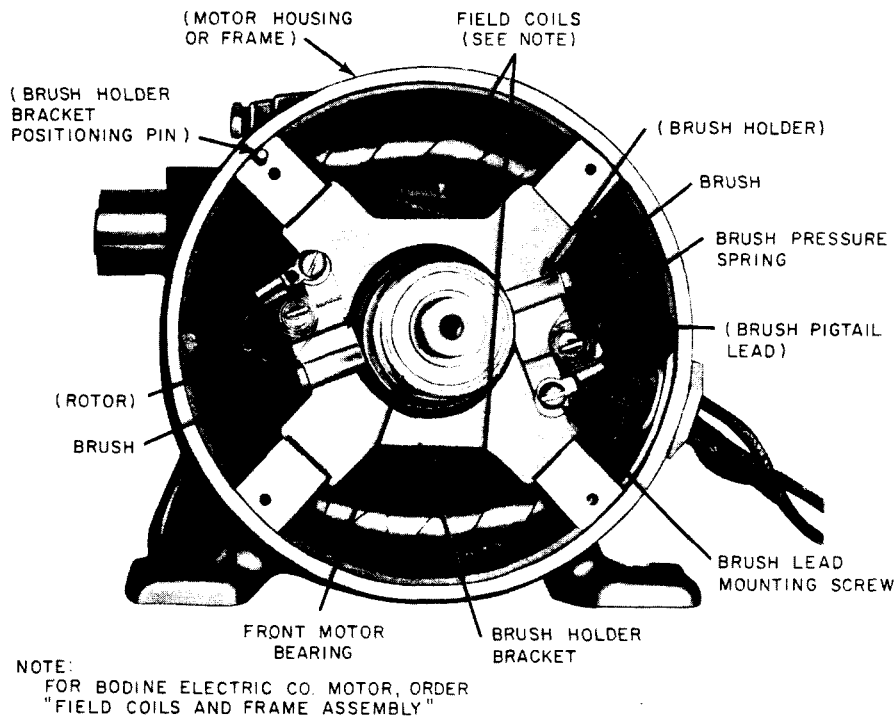

Fig. 3—Motor for KS-5502 and KS-15836 Type Motor-Driven Switches—End Shield Removed (Master Electric Co. motor shown)
Motor Field Coils: Fig. 3
(2) ***Master Motor: Fig. 3***
Motor Bearing: Fig. 3